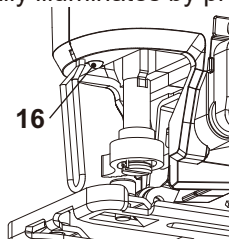

Fig. 8
The work light (16) automatically illuminates by pressing the on/off switch (Fig 8).